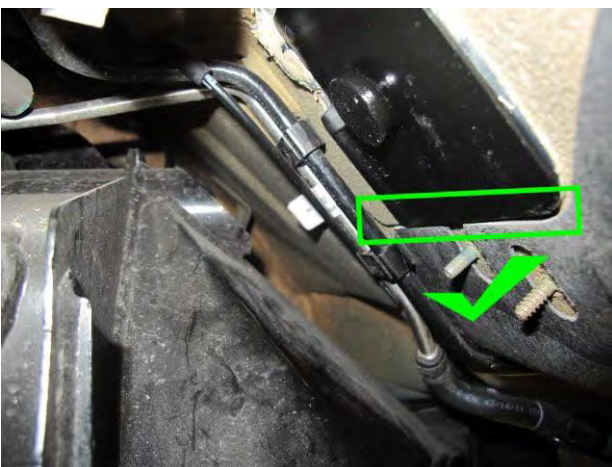

Figure 31
- Referring to Figure 31 - Confirm the **left and right hand** plates are not overlapping the underbody protection